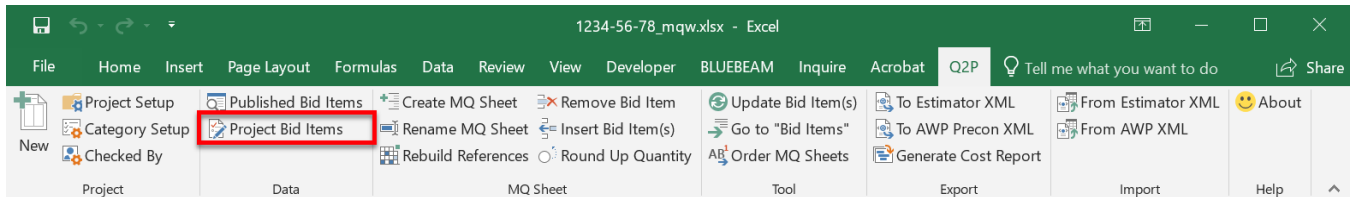
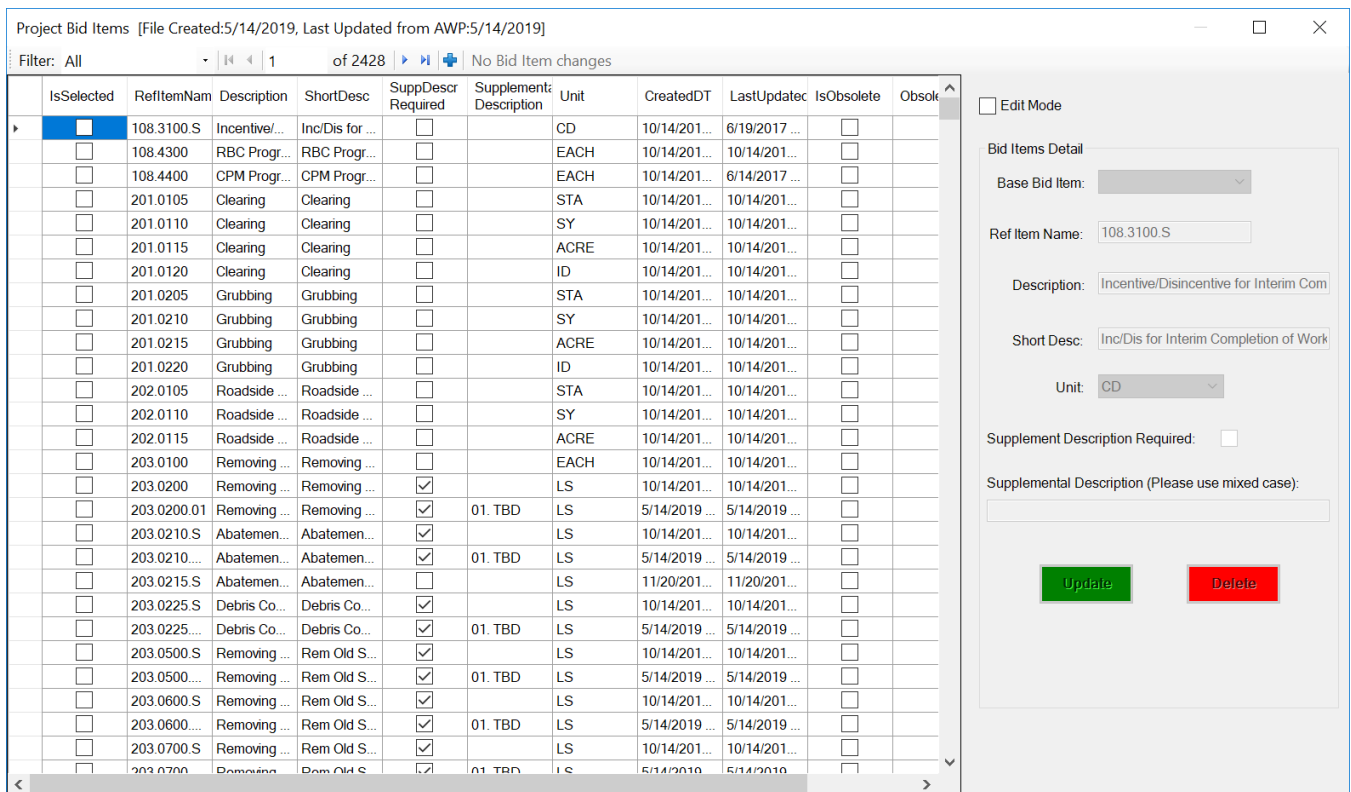

Figure 3.3 "Project Bid Items" command.
Figure 3.4 List of currently available items saved locally to your machine for use in Q2P.
**Q2P > Data > Project Bid Items** (Figure 3.3) will display the active workbook's (a.k.a. project's) list of bid items. When a new Q2P project is started, the program creates a snapshot of the published bid items based upon data from the AWP server for the chosen Spec. Book year. This **Project Bid Items** list (Figure 3.4) is also editable by the user to add or delete user defined items. See section 7. Items with Supplemental Descriptions.